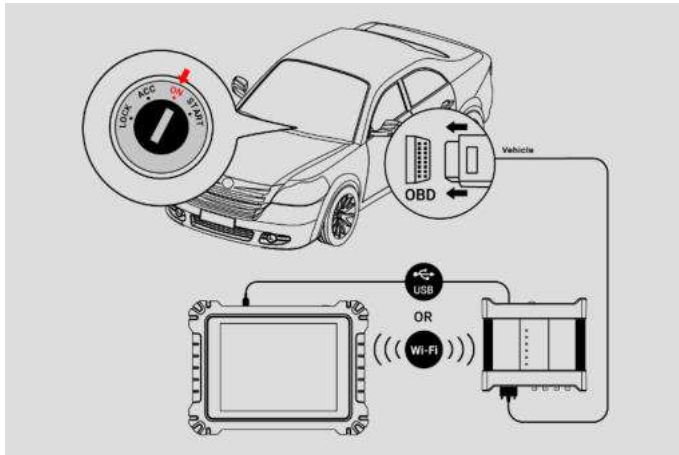

Figure 7-1 Sample Connection Diagram
1. Please refer to **Figure 7-1 Sample Connection Diagram** to complete the connection. Place the ignition in the key on position.